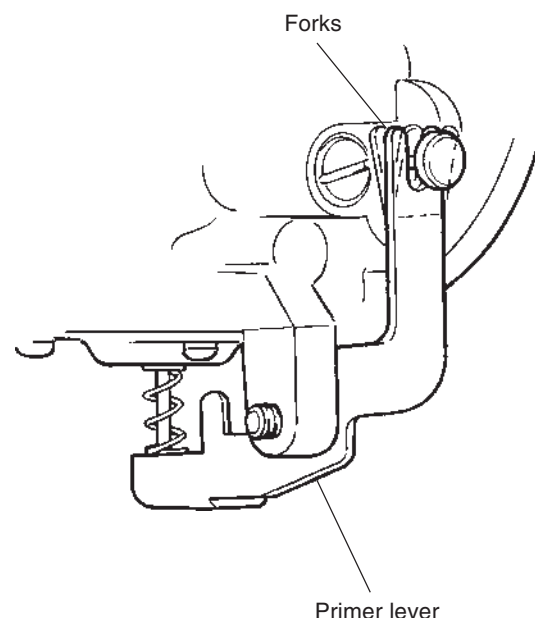

Figure 3.8 TK primer lever, typical
- Inspect primer assemblies for leaks and especially (TK) for damaged primer levers or forks (Figure 3.8).